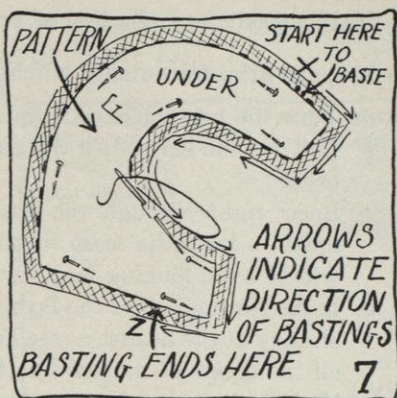

FIG. 7.
- b. Continue to baste the edge, the seam, and the headsize by starting from the point where you stopped the basting in Section a; however, this time do not baste through all the materials, but through the materials as far as, and including the one layer of outer material that is closest to the pattern (see arrows indicating direction of basting in Figure 7). (This may mean to baste through either crinoline, interlining, and one layer of outer material, or the crinoline and one layer of outer material (see Figure 7), or just one layer of outer material, should neither interlining nor crinoline be needed.) Be sure to baste as close as possible to the edge of the pattern, at the edge, ends, and headsize (see Figure 7). You must be able to turn your brim right side out, therefore follow this section carefully.
- c. Turn the slashed edge of the brim up inside headsize band and pin (see Figure 7 of Job 8, page 35).